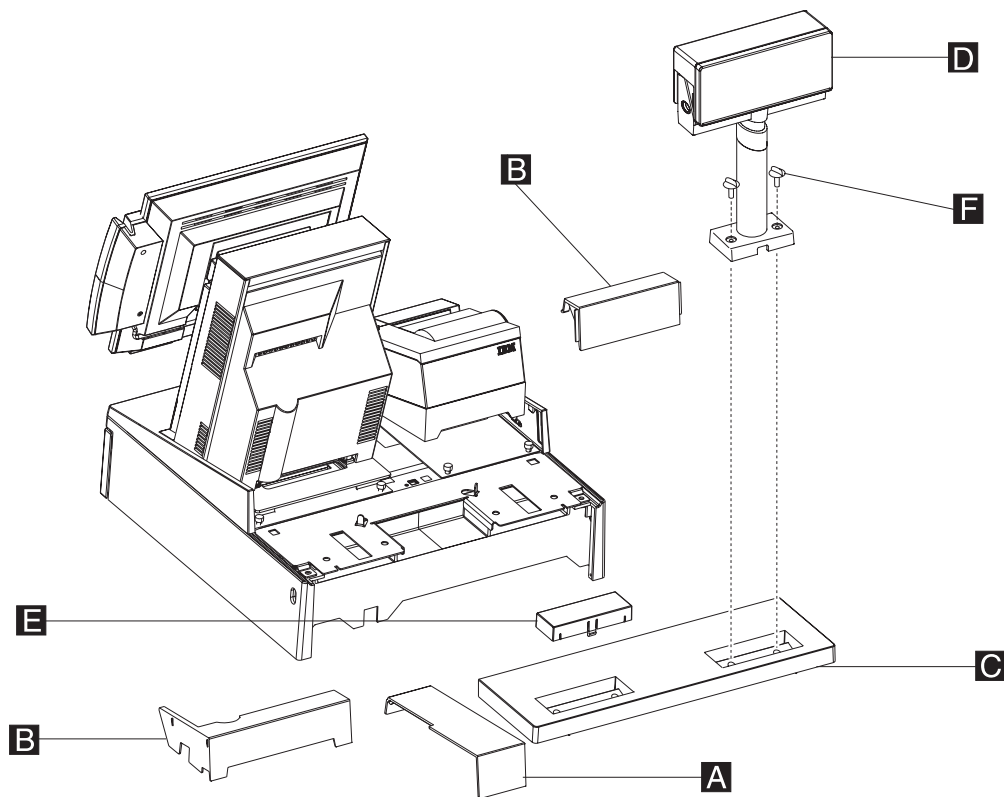

Figure 35. Attaching filler panels and the rear modesty cover
Note: If you are installing a distributed-character display, route the cable through the unattached rear modesty panel **C** in Figure 35.
12. See Figure 35. Install the filler panels after you route all the cables to your system. Note that filler panel **A** locks filler panels **B** onto the tray. Install the filler panels after you have routed all of the cables.